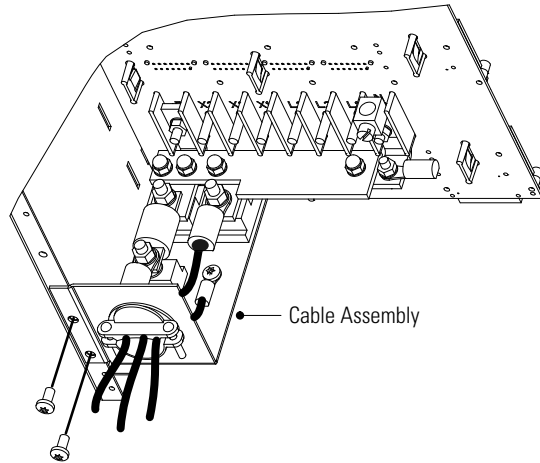

Figure 45. Battery Cable Assembly Installation
- 12.** Align the screw holes of the cable assembly's entry plate with holes on the cabinet side cover as shown in Figure 45. Secure the entry plate with screws supplied with the cable assembly.
- 13.** If the battery cable will be installed in customer-supplied flexible or other conduit (as required by local wiring codes), loosen the two screws holding the strain-relief clamp shown in Figure 45. Remove the clamp by loosening the star nut on the inside of the entry plate, leaving the nut in place. Replace the clamp with a panel-to-conduit feedthrough and secure it with the star nut.